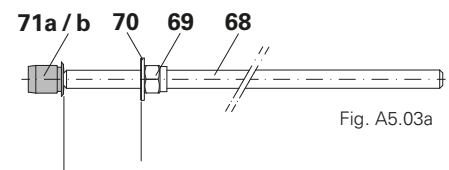

Fig. A5.03a
4. Insert the threaded rod (**68**) into the plug (**71a / 71b**) and adjust to dimension "51" with the threaded rod (**68**), washer (**70**) and nut (**69**). (Fig. A5.03a)